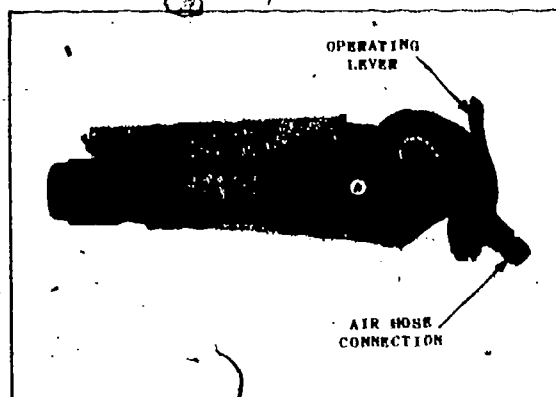

Fig 1-24. Riveter.
b. Riveting hammer (fig 1-24). The riveter is one of the reciprocating percussion pneumatic tools used by maintenance personnel to chisel, remove paint, cut tops from oil drums, and for other light hammering jobs. Although the riveter is just as simple and trouble-free as the impact wrench, it is one of the more dangerous of the pneumatic tools. Never point the riveter at anyone; it is possible for the piston to come out with enough force to injure anyone standing in the line of flight. Keep the tool clean and well lubricated and it will provide many hours of useful service.